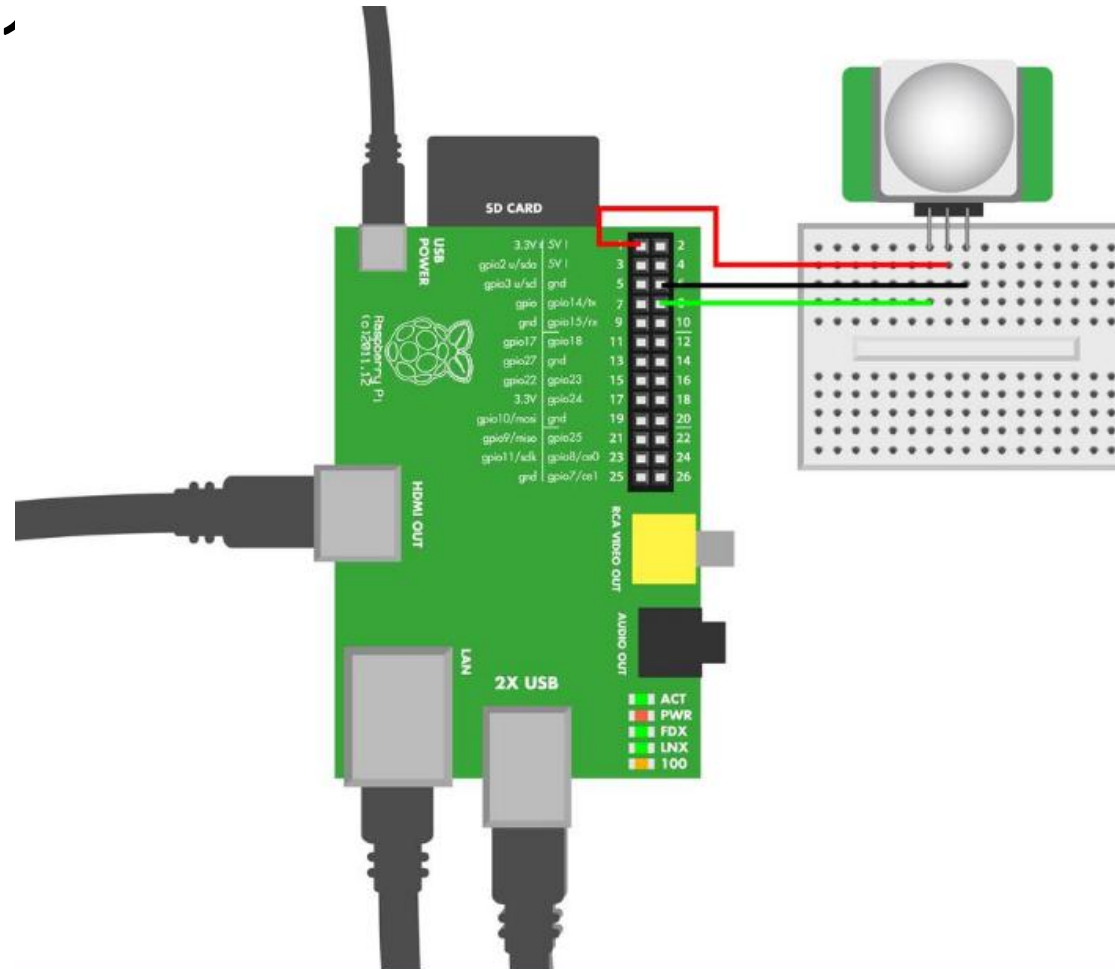

Figure 6-16. Parallax PIR sensor Rev A circuit for Raspberry Pi
- Figure 6-16 shows the circuit for Raspberry Pi. Wire it up as shown, and then run the code in Example 6-'